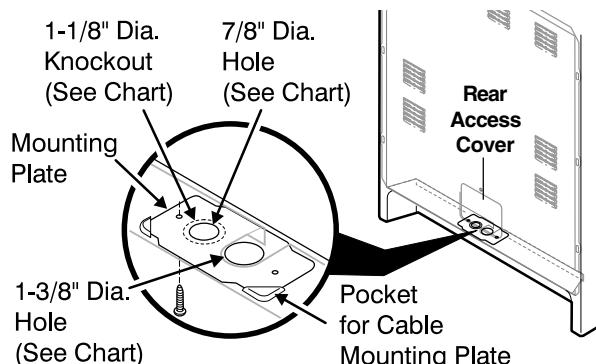

Fig. 9
See Range Connection Opening Size Chart (Figs. 9 & 10) for cord kit ampere rating information. Terminals on end of wires must be either closed loop or open-end spade lugs with upturned ends.
The Rear Access Cover must be removed (Fig 9). To remove, loosen center screw (one screw) and remove cover. The terminal block will then be accessible.
**NOTE:** Range is shipped from factory with 1-3/8" dia. hole as shown. To use either 7/8" dia. hole or 1-1/8" dia. knockouts refer to Fig. 9.
- Follow the manufacturer's installation instructions supplied with the strain relief and install (Also see Figs. 9, 10 & 11).
- Make sure all screws are tightened securely and replace the rear access cover (See Fig. 9).
- Make sure all connections are tightened securely and replace the rear access cover (See Fig. 9).